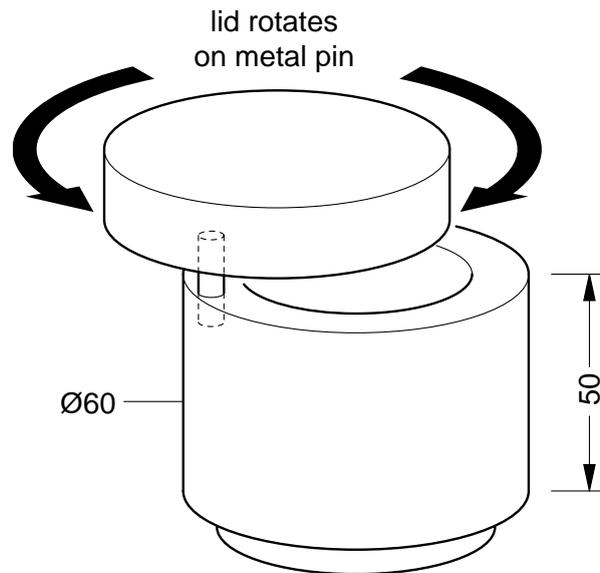

Fig. 7
- 8 Fig. 7 gives details of a container and its lid.